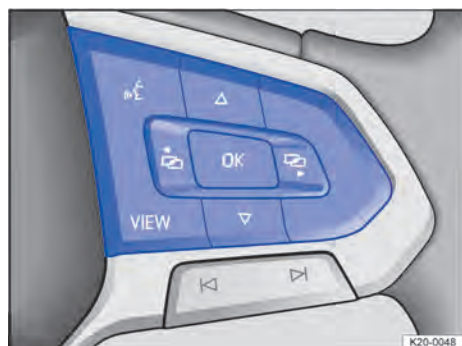

Fig. 13 Right-hand side of the multifunction steering wheel: controls for using the menus and information displays in the instrument cluster.
If any priority 1 warnings are displayed, you will be unable to open any menus → page 19. Some warnings can be confirmed and hidden with the **OK** → Fig. 13 button on the multifunction steering wheel. *Vehicles without multifunction steering wheel:* If any priority 1 warning reports are being displayed, you will be unable to open
2. Press the **OK** → Fig. 13 button, several times if required, if a message or the vehicle pictogram is displayed.
3. Press the  or  button to display the menus and to browse through a menu → Fig. 13.
4. To open the menu or information display shown, press the **OK** button → Fig. 13 or wait until the menu or information display opens automatically after a few seconds.
1. Press the arrow buttons  or  in the displayed menu until the desired menu option is highlighted → Fig. 13.
2. Press the **OK** button → Fig. 13 to make the required changes.
1. Press the  or  → Fig. 13 button.
— To switch between the current and previous menus, press the **VIEW** button → Fig. 13, → page 25.